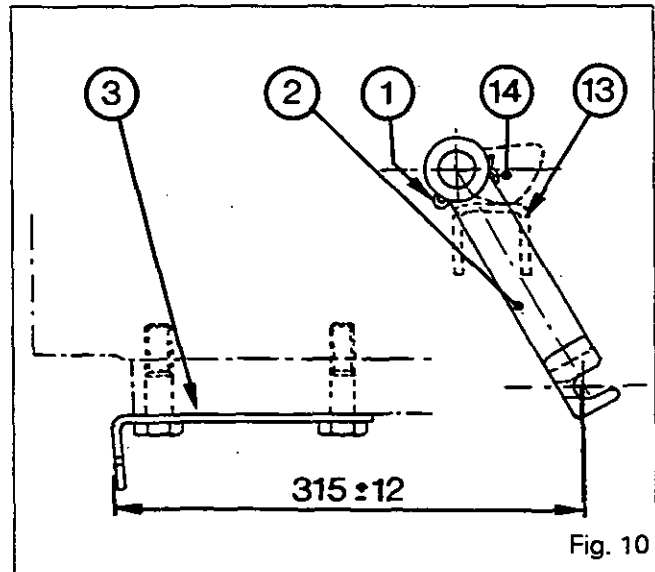

Fig. 10
55. Position the lever (2) (Fig. 10) of the cam (14) in contact with the lever (13) so as to obtain a distance of 315 mm \pm 12 between the cable fastening axis and the support (3). Fit the cotter pin (1) (Fig. 10).